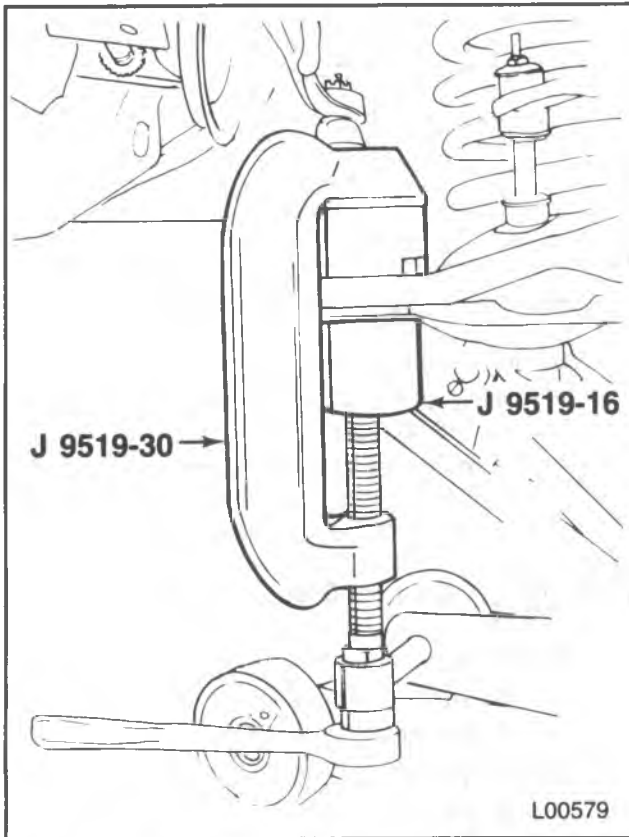

Figure 26 — Installing the Lower Ball Joint
1. Ball joint (37) into the lower control arm (36).
- Start the ball joint into the control arm and install J 9519-16 and J 9519-30 (figure 26).
2. Ball joint into the steering knuckle (31).
- Mate the steering knuckle (31) to the lower ball joint (37).